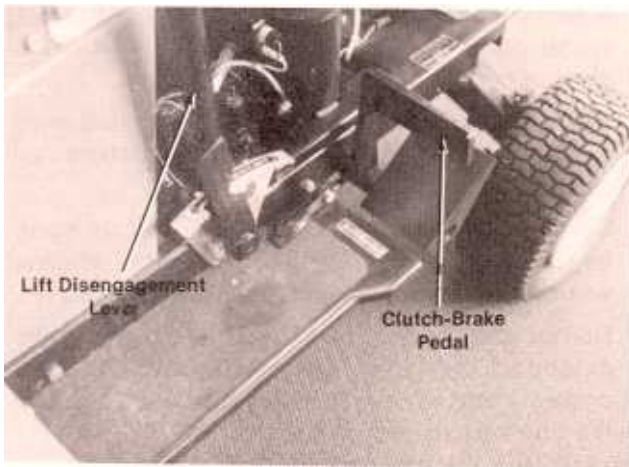

FIGURE 12.
e. Clutch-Brake Pedal. The clutch-brake pedal is located on the right hand side of the rider and is operated by depressing it with your right foot. See figure 12.
f. Lift and Disengagement Lever. It is used to raise the cutting deck. Pulling it all the way back and locking it disengages the blades. The engine will not start unless the lift and disengagement lever is in the disengaged position. See figure 12.